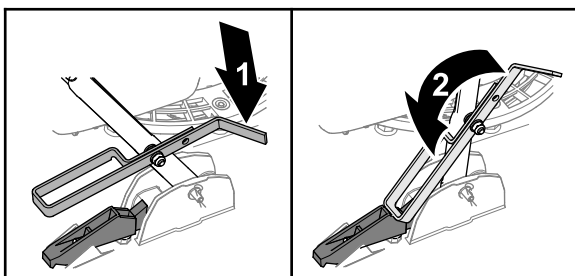

Figure 25
- To release the handlebar, lift the handlebar and rotate the footstop forward (Figure 25).